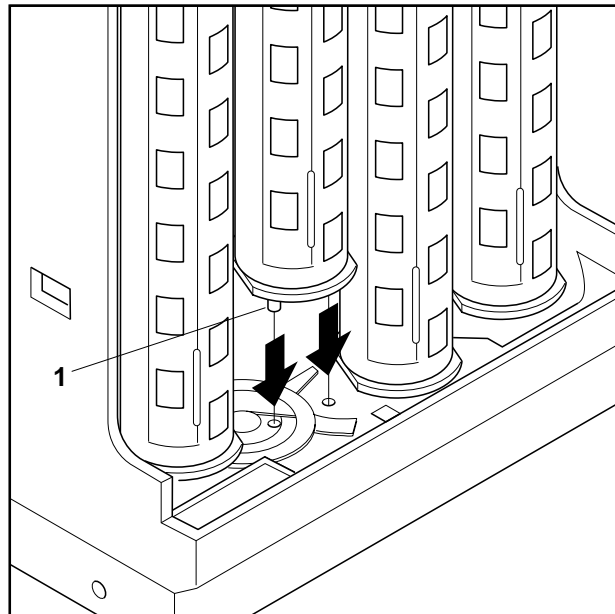

Fig. 17: Installing the tubes
- Insert left or right tube into payout set so that the 2 pins (**1**) on the bottom of the tube enter into the appropriate holes of the payout set (fig. 17).